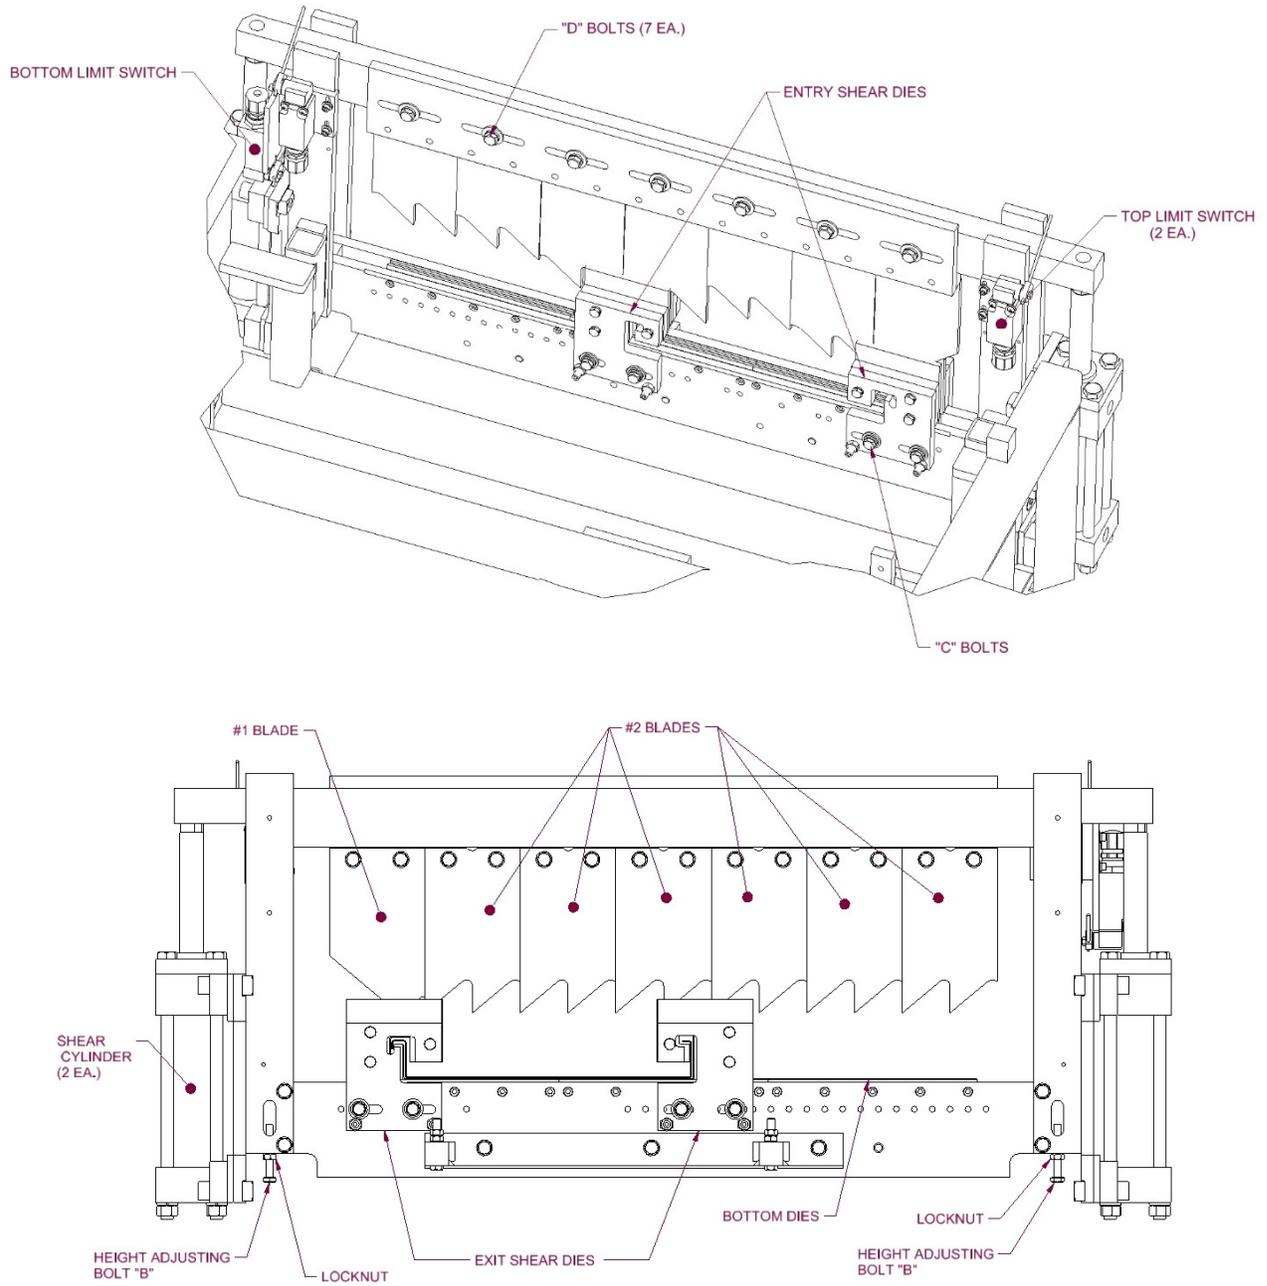
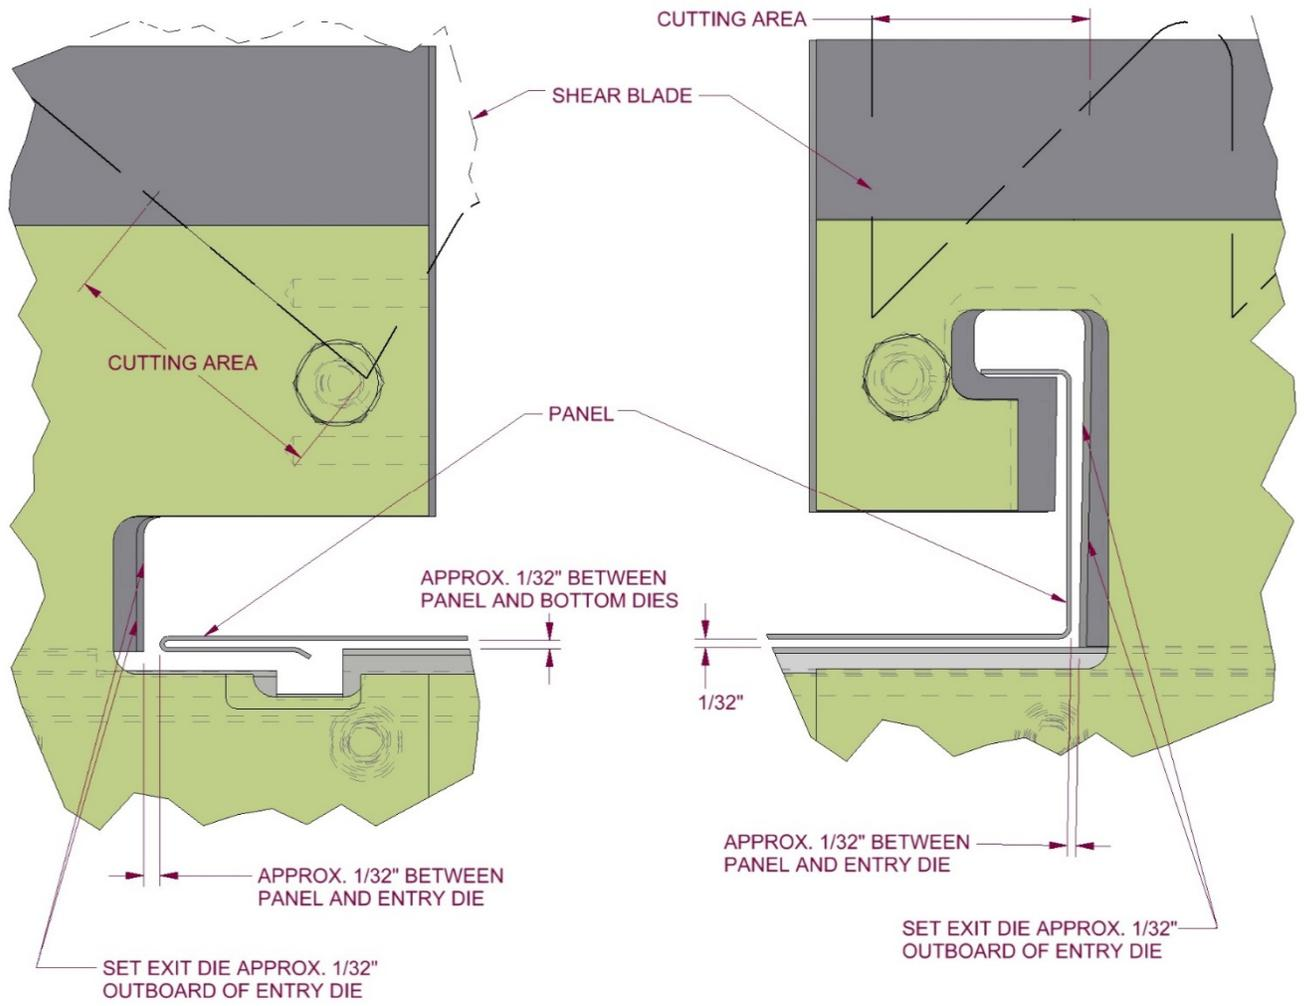
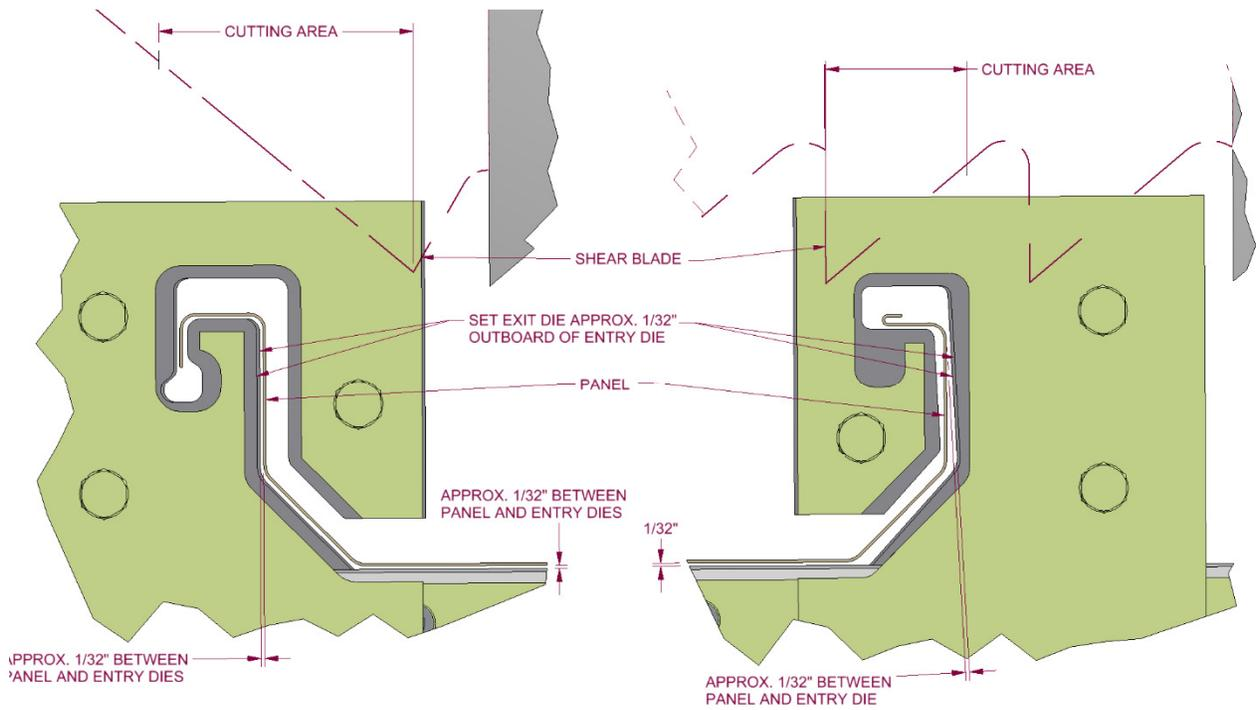

Figure 22: Entry/Exit Views
Figure 23: BP100 / BP150 Shear Dies
Figure 33: TRQ250 Shear Dies
Bottom Shear Dies (Detail A - Figure 23)
(Figure 22 & Figure 23)
9. In order to cut properly, the **Top Blades** need to be positioned so that one of the #2 Blade tips is just to the inside of the male leg, as shown in Figure 23-Figure 33 and also the tip of the #1 blade is positioned to the inside of the female leg as shown in Figure 23-Figure 33. The rake or angle of the blades should cut in a scissor action outward against the legs. If necessary, loosen the 7 “D” bolts and move the Top Blades left or right to get them in the correct position. Retighten the bolts.